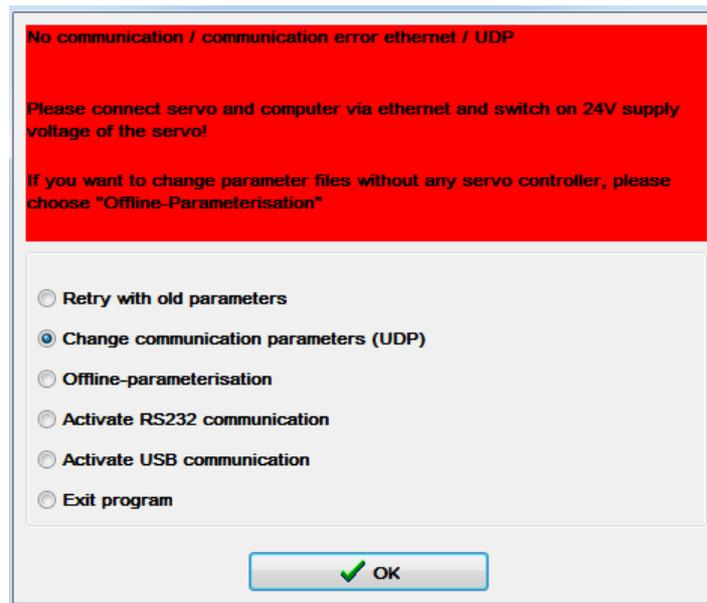

Figure 12: Selection window after the loss or termination of the UDP connection
3. Then, the window in *Figure 12* opens. Select the option **Change communication parameters (UDP)** and click OK to confirm.
5. If the settings are correct, the Afag SE-Commander connects itself with the servo drive. In the event of an error, the selection window in *Figure 12* opens. The configuration can be repeated until a connection to the servo drive is established.